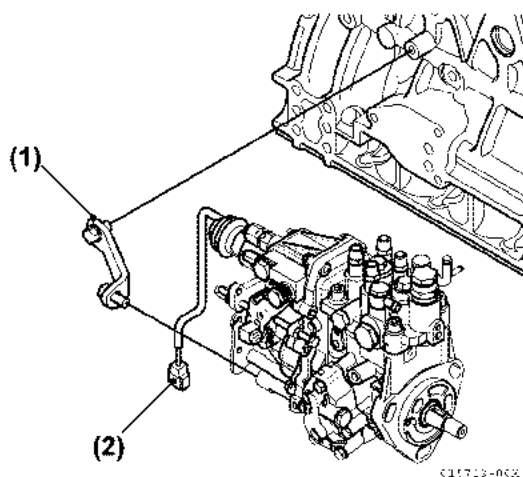

Figure 6-19
3. Disconnect electrical connector (Figure 6-19, (2)) from fuel measuring unit.
7. Remove bolts and support (Figure 6-19, (1)).